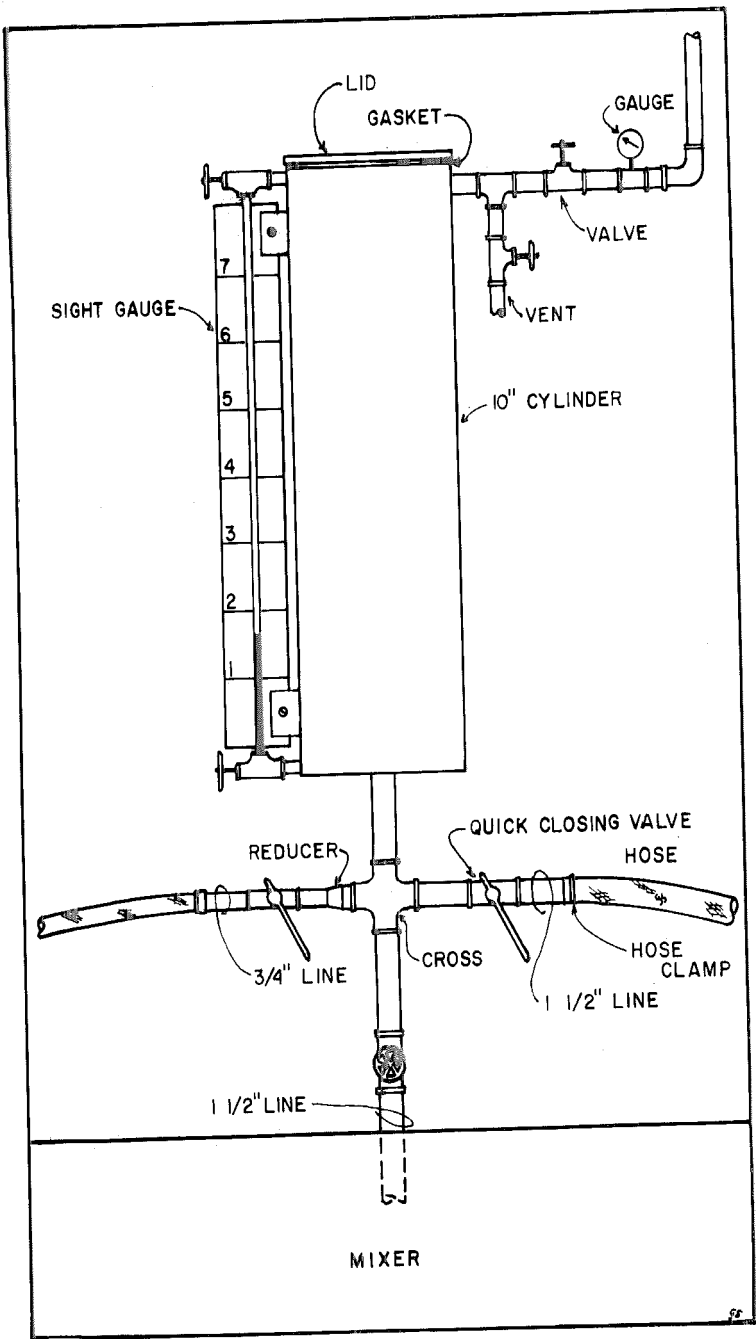

FIG. 3.—Oil measuring device.
3. This same principle works well for handling bulk motor oil, also. See Figure 3.